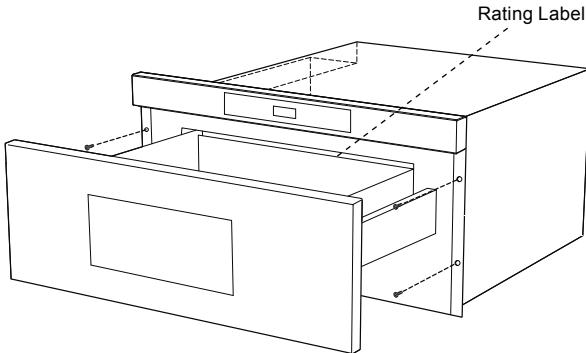

Figure 9A
4. Open the drawer. Using the 4 holes on the drawer as a template, predrill the cabinet using a $1/16"$ drill bit. See **Figure 9A**.
The rating label includes the model and serial number. Open the microwave drawer fully. The label is located slightly beyond the back wall of the microwave cavity facing up from the flat surface. See **Figure 9A**.